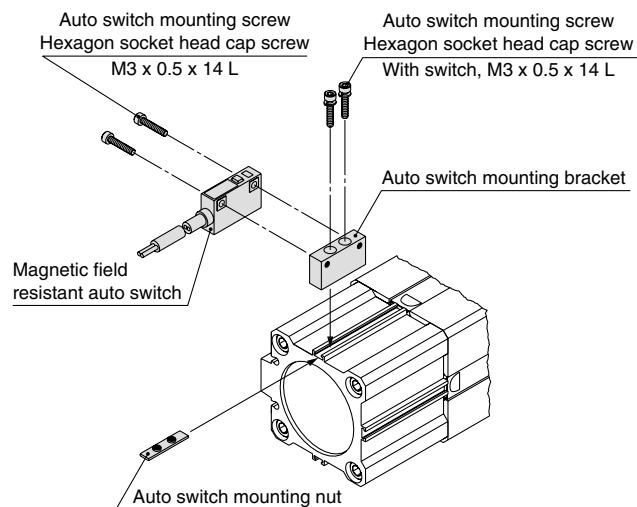
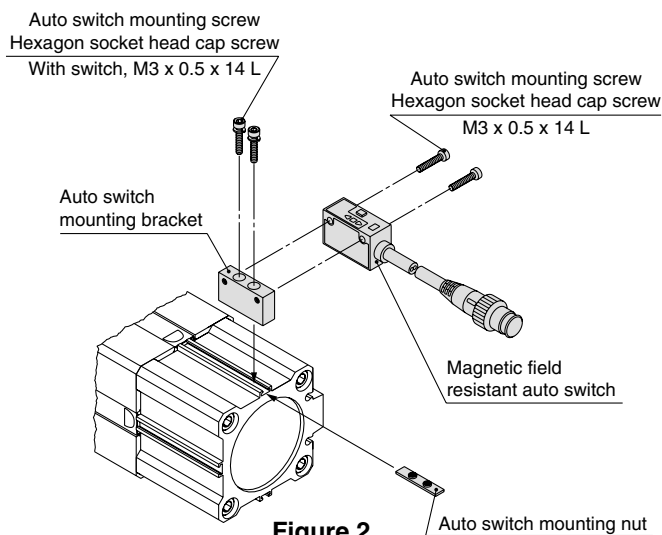

Figure 1
Figure 2
4. After reconfirming the detecting position, tighten the mounting screw to secure the mounting bracket and the auto switch. (Tightening torque should be 0.5 to 0.7 N·m.) (See Fig. 1 and Fig. 2.)
Note) Be aware that the D-P79WSE should be installed in the specified direction when installed in the auto switch mounting bracket. Therefore the soft resin mold surface must be in contact with the auto switch mounting bracket. (See Fig. 2.)